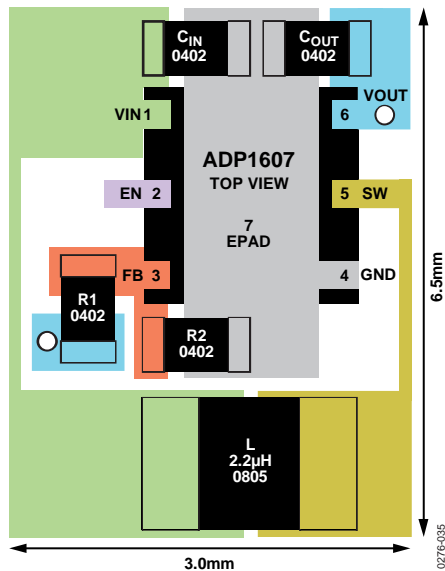

Figure 31. ADP1607 Recommended Layout Showing the Smallest Footprint
- For ADP1607, place the feedback resistors, R1 and R2, as close to FB as possible to prevent noise pickup. Connect the ground of the feedback network directly to an AGND plane that makes a Kelvin connection to the GND pin. See Figure 31 for more information.